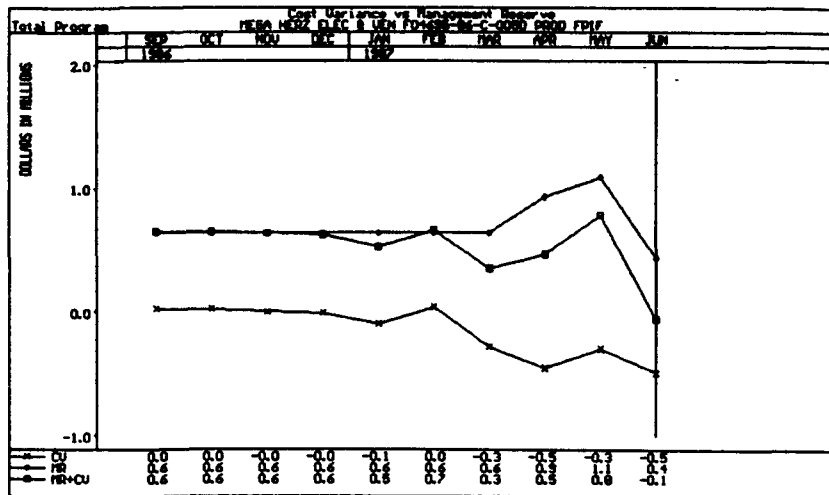

Figure 7-17
The Management Reserve graph displays the cumulative cost variance, Management Reserve (MR), and the summation of the cumulative cost variance and MR at the total program level. (Figure 7-17) It will initially display the most recent 12 months of data. You may toggle back in 12-month increments by pressing the Space Bar.